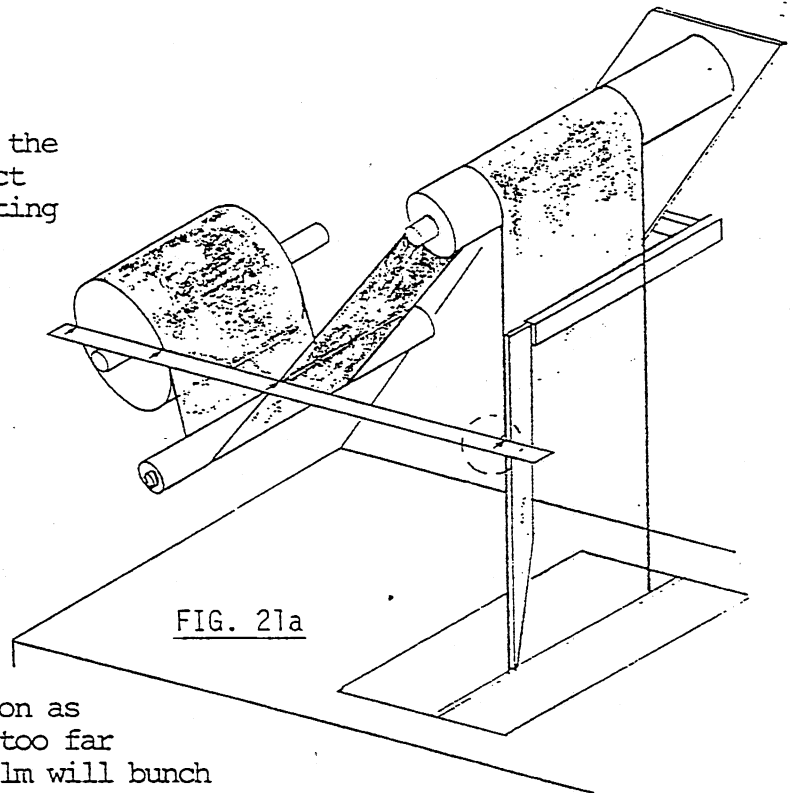

FIG. 21a
B. Film Roll Position The center fold edge of the film roll and where the edge passes over guide rollers, film feed roll and finally along the edge of the film guide bar should all line up. Lay a straight edge along the end surface of the film roll (preferably as large a roll as possible). The centerfold edges of the film where it passes over the guide rollers and the edge of the film guide should line up with the straight edge. See Figure 21a. This should be done with the film guide adjusted squarely to the jaws.